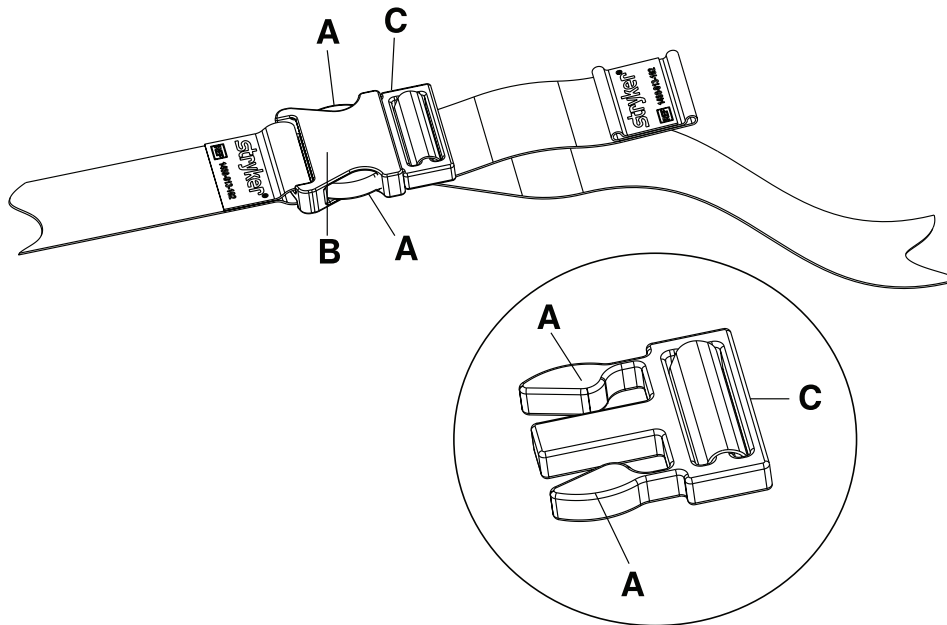
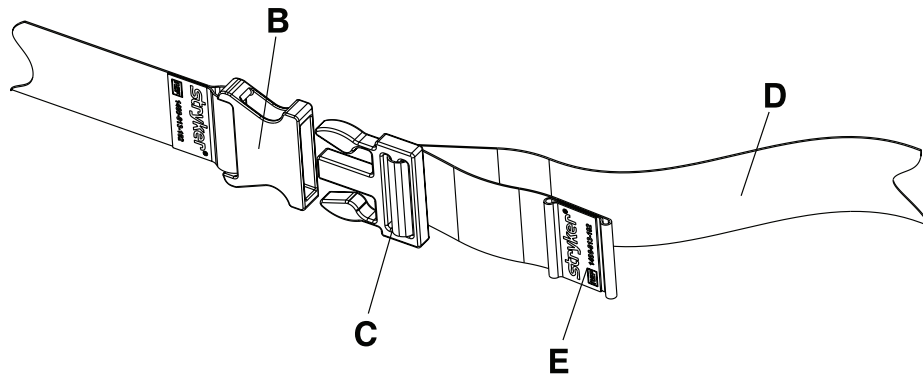

Figure 1-16: Open the lap belt
Figure 1-17: Close the lap belt
- To open the lap belt (Figure 1-16 on page 1-28):**
- Grasp and squeeze the tabs (A) on the buckle latch.
- Pull on the buckle receiver (B) and the buckle latch (C) to separate them.
- To close the lap belt (Figure 1-17 on page 1-29):**
- Push the buckle latch (C) into the buckle receiver (B) until you hear a click.
- With one hand, grasp the buckle latch (C) (Figure 1-16 on page 1-28).
- With the other hand, grasp the strap (D) (Figure 1-17 on page 1-29) .
- Pull the strap out through the buckle latch (C) until you achieve the desired length.
- With one hand, grasp the buckle receiver (B) (Figure 1-16 on page 1-28).
- With the other hand, grasp the hemmed end of the strap (E) (Figure 1-17 on page 1-29).
- Pull the strap through the buckle receiver (B) until you achieve the desired length.
- Make sure that the buckle latch (C) is secure. Do not allow any extra strap to hang loose or tangle in the wheels.